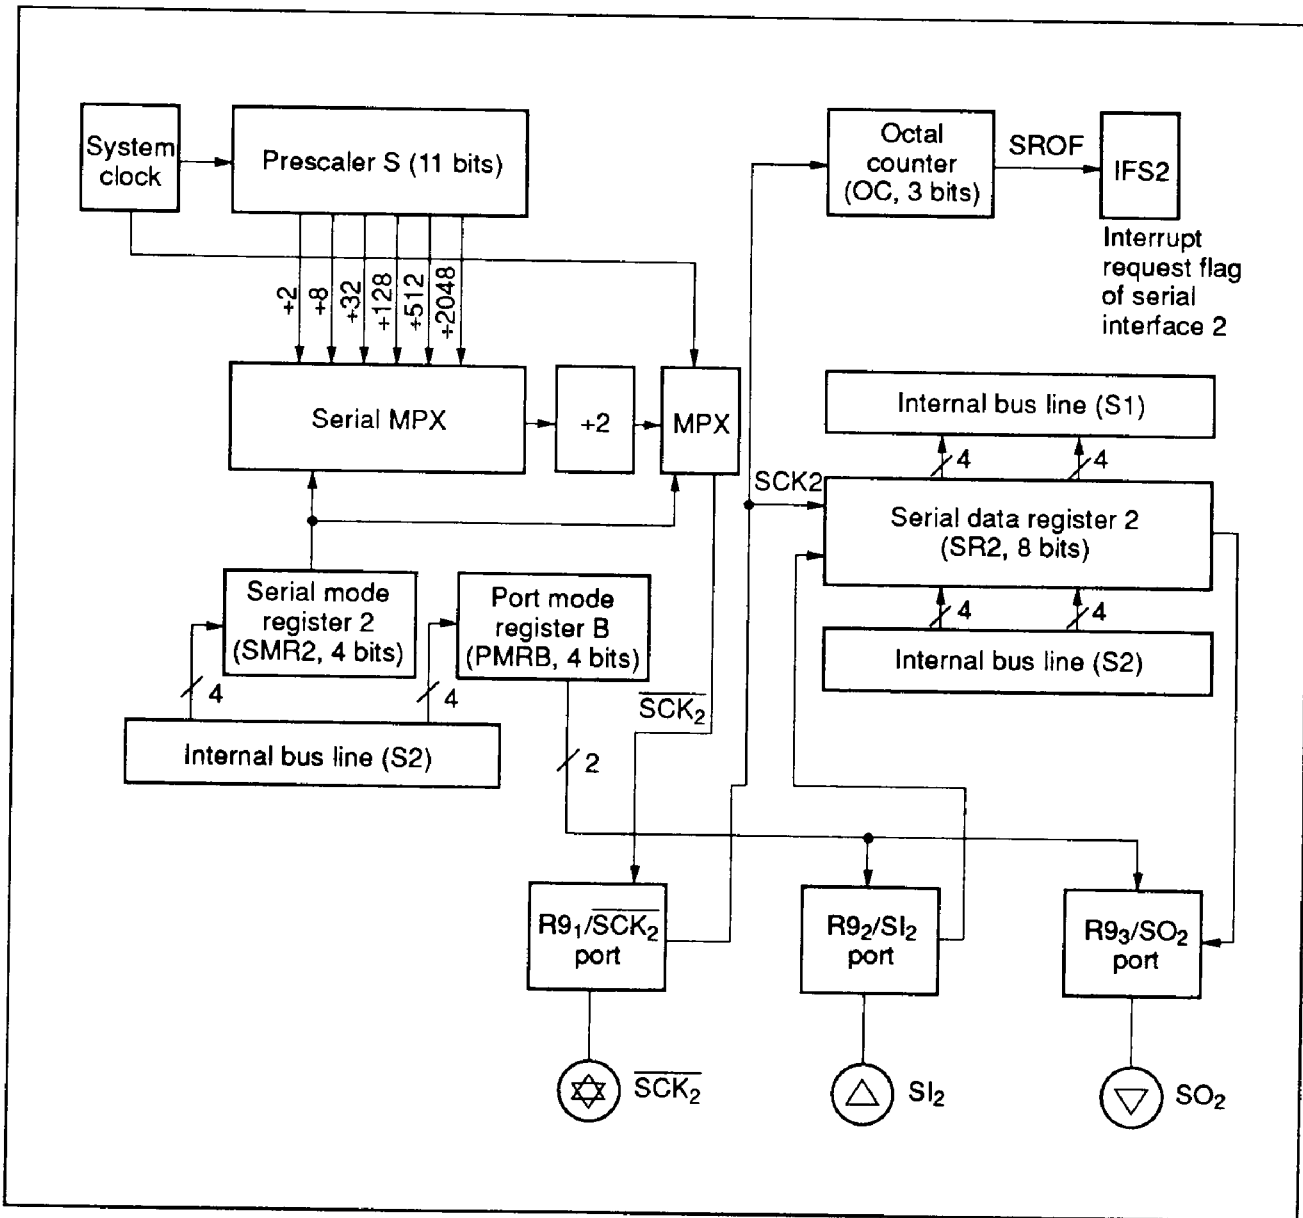

Figure 45 Serial Interface 2 Block Diagram
**Serial Interface 2:** Used to serially transmit and receive 8-bit data. It consists of serial data register 2 (SR2), serial mode register 2 (SMR2), port mode register B (PMRB), an octal counter, and a multiplexer as shown in figure 45. The R91/SCK2 pin and the transmit clock are controlled by writing data to SMR2. The transmit clock shifts the contents of the SR2, which can be read and written to by software, and then transmission starts between two MCUs.